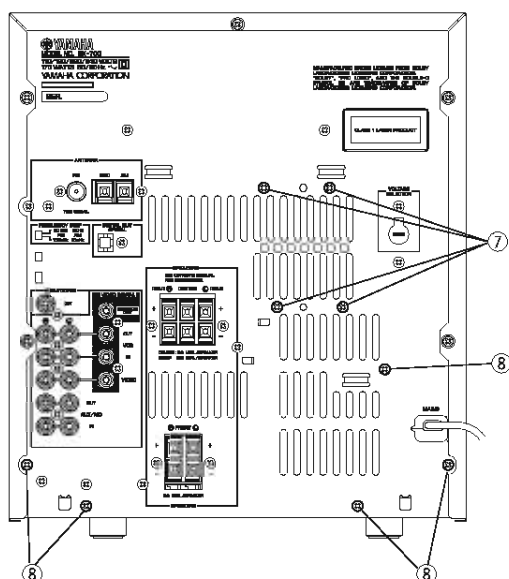

Fig. 6
6. Operation Check of P.C.B. Main (1)
- Remove 4 screws (⑦) and then remove the Fan in Fig. 6.
- Remove 5 screws (⑧) in Fig. 6.